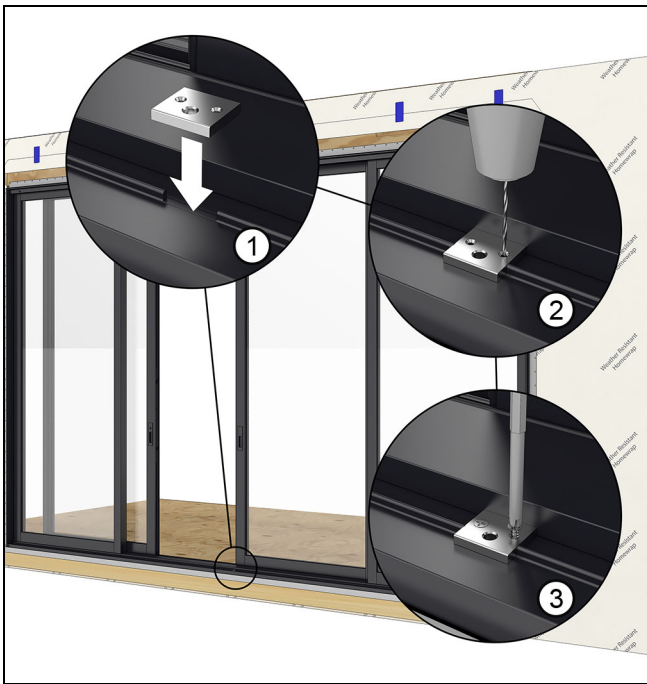

Figure 136
4. On OXXO configurations, install the sill screen strike in the recess of the sill. Pre-drill with a 5/32" drill bit and fasten with two #4 x 1/2" black painted self drilling screws. See Figure 136.